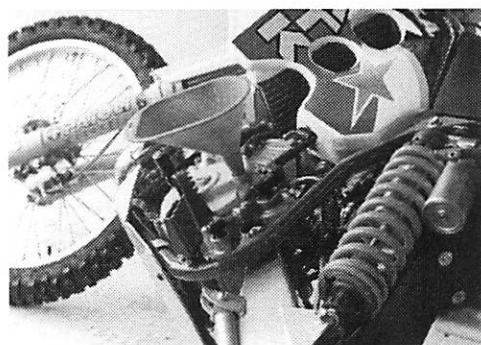

Figure 4.2
9. Pour about 8/10 of a quart into hole in cover. (Figure 4.2)